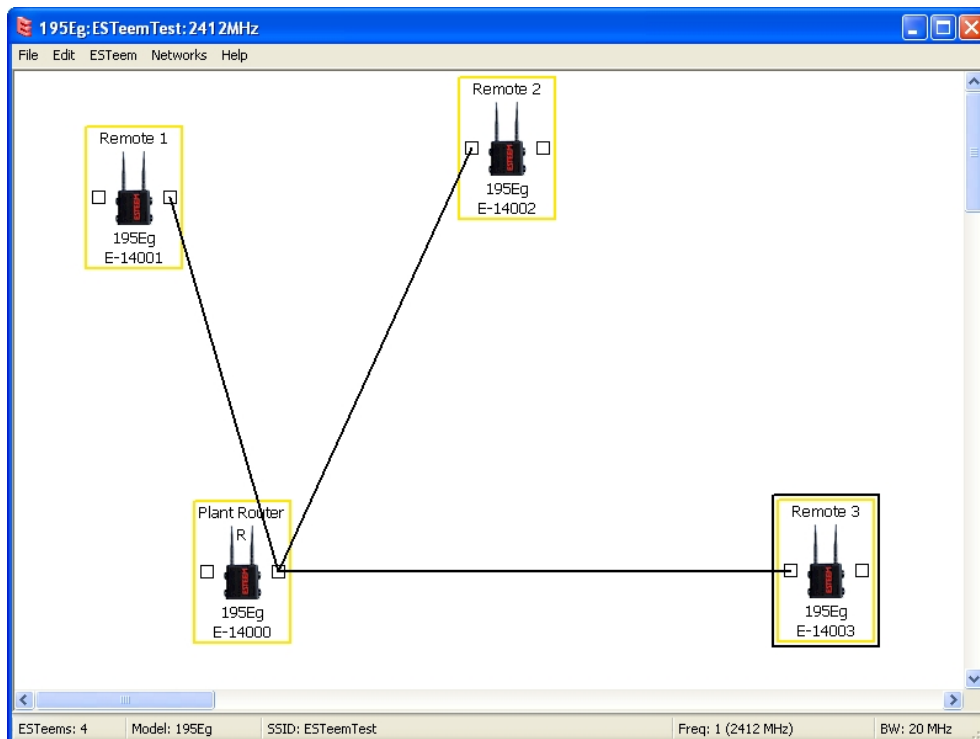

Figure 19: Router Example Layout
2. Move the ESTeem 195C/M icons on the screen to simulate the layout of the diagram. Draw connection lines between the wireless links modems in the same order as the network layout (Figure 19).